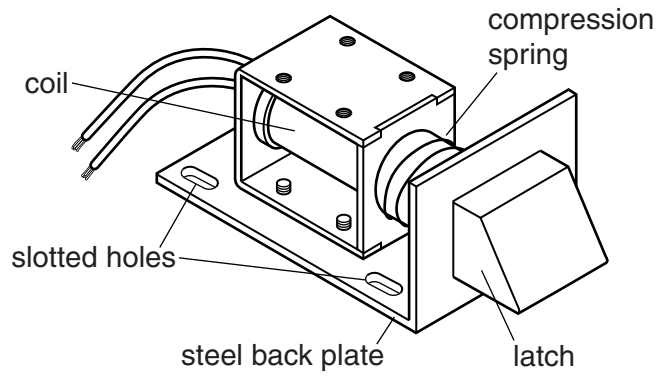

Fig. 10
(c) Fig. 10 shows the solenoid lock to be used in the electronic door release.
- (ii) Describe how the slotted holes in the steel back plate in Fig. 10 could be produced. Use notes and sketches in your answer.